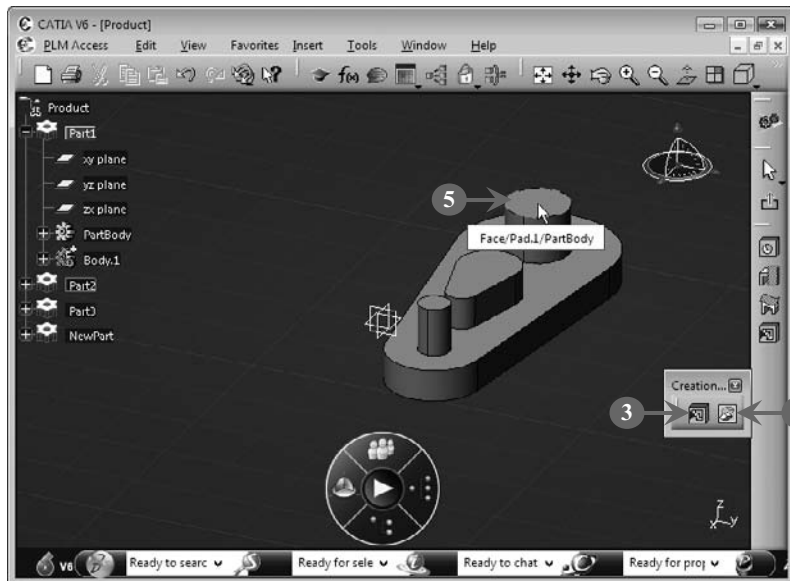
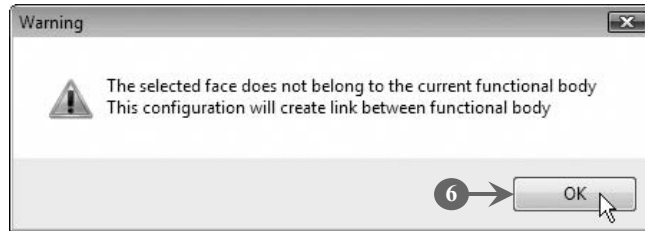

FIGURE 4.40
FIGURE 4.41
3. Click the **Launch Assembly Feature Definition** button on the **Creation** toolbar to prevent the **Assembly Feature Definition** dialog box from appearing at the end of hole creation (Figure 4.40).
4. Click the **Specification in No Show** button on the **Creation** toolbar to show the hole at the end of its creation (Figure 4.40).
5. Select the component of the assembly in which you want to create a hole, as shown in Figure 4.40:
The **Body.1** product is created in the specification tree (Figure 4.40), and a warning message indicating that a link is about to be created between the new product and the selected component of the assembly, is displayed (**Figure 4.41**).
6. Click the **OK** button to close the message box, as shown in Figure 4.41: